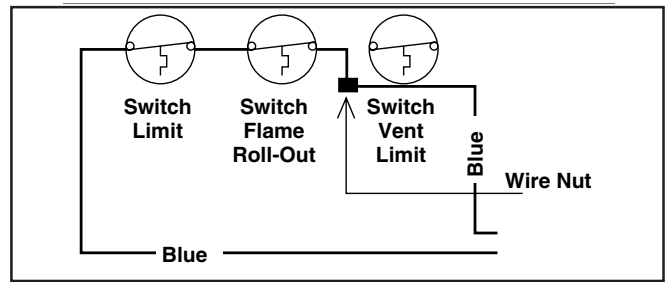

Figure 14. Limit Circuit Wiring
3. Bypass the vent switch by removing both wires from the vent switch and attaching them to the wire nut. (See Figure 14.)
1. The termination tee must be 12 inches above snow level or grade level which ever is higher. See Figure 14 for alternate method to achieve 12" above snow level.